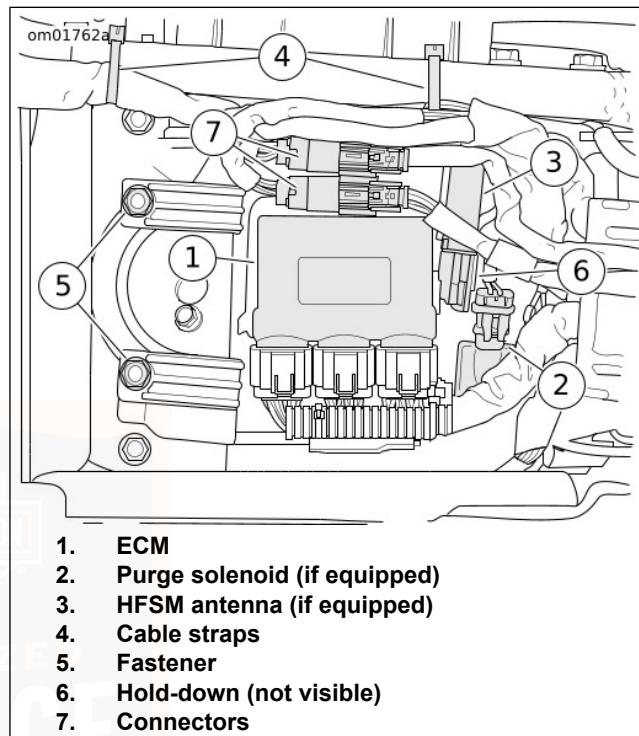

Figure 78. Top Caddy
2. Release ECM (1) from top caddy. Move out of the way.
3. See Figure 78. If present, move purge solenoid (2) forward to release from top caddy. Release HFMS antenna (3) from top caddy and move out of the way.
4. Release connectors (7) from anchors on top caddy.
5. Remove fasteners (5).
6. Cut cable straps (4). Move harnesses to allow more clearance for the top caddy.
6. See Figure 78. Place top caddy into position and engage latch on hold-down bracket.
7. Fasten top caddy to frame crossmember with screws (5). Tighten to 8.1–10.9 N·m (72–96 **in-lbs**).
8. If equipped, engage HFSM antenna (3) and purge solenoid (2) on top caddy. Verify that all other connectors and harnesses are routed below the purge solenoid mounting tongue.
9. Secure connectors (7) to anchors on top caddy.
10. Latch ECM (1) into place on top caddy.
11. Secure harnesses to frame with cable straps (4).